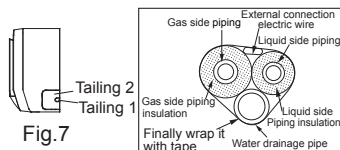

Fig.7
- When routing the piping and wiring from the left or right side of indoor unit, cut off the tailings from the chassis when necessary (As shown in Fig.7)